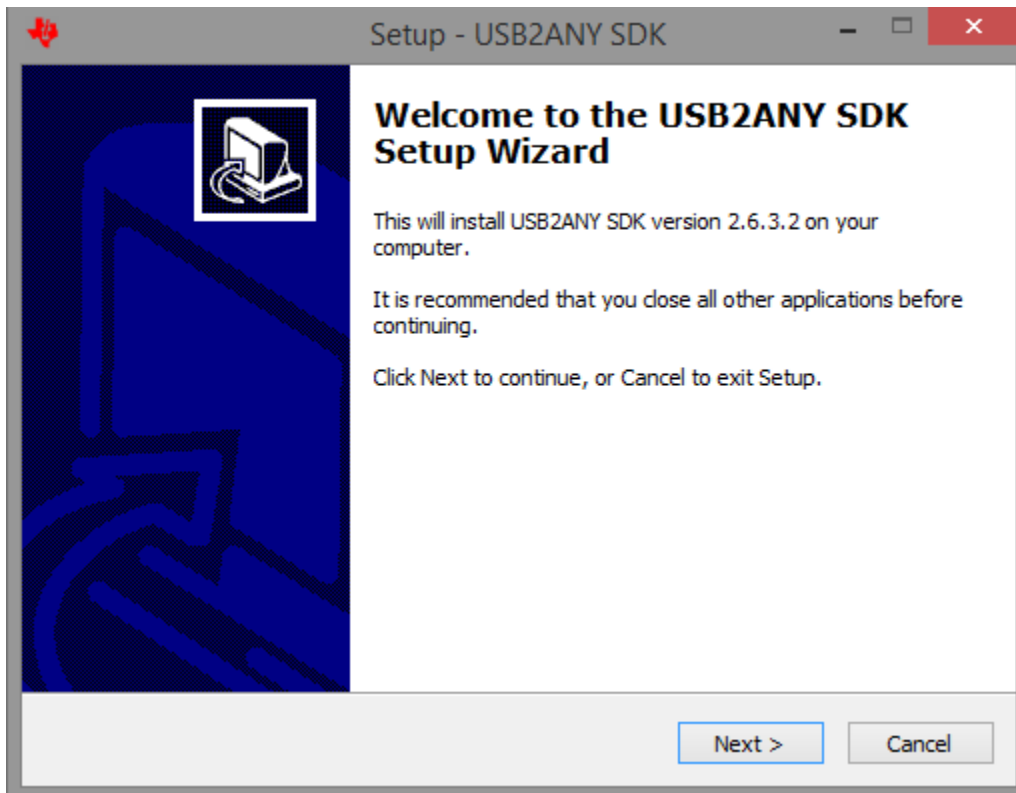

Figure 1-14. USB2ANY Installation
- The USB2ANY installation starts after Python installation is finished. From the dialog as shown in Figure 1-14, click the **Next >** button.